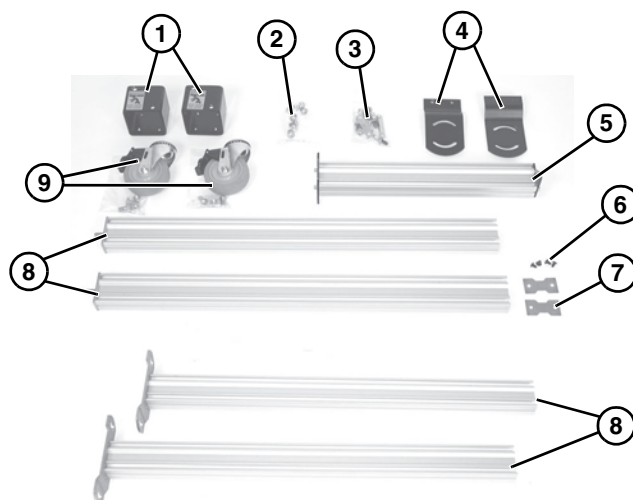
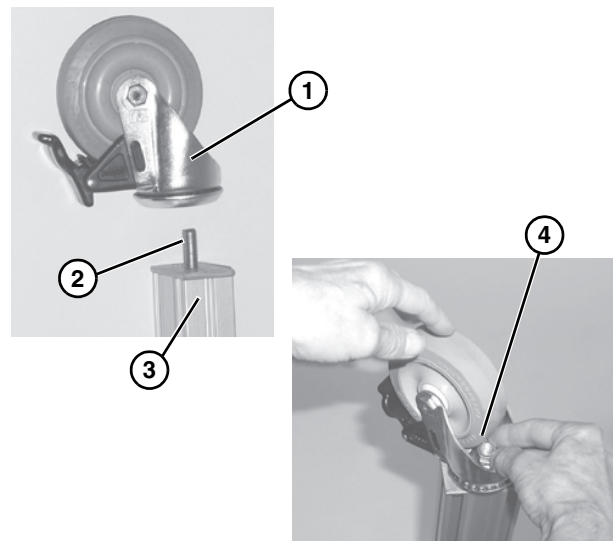
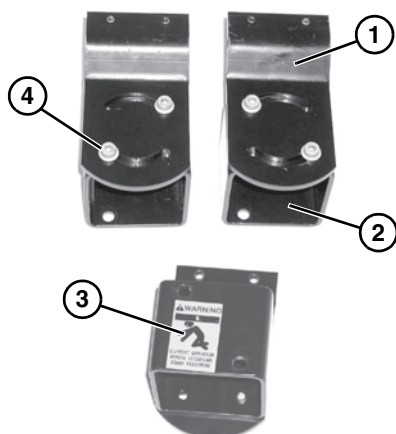

Figure 2
Figure 6
Figure 8
1. Typical components (Figure 2).
2. Open crossmember hardware pack (Figure 2, item 2).
Caster Kit (**Figure 2, item 9**) Components:
7. Open caster kit (**Figure 2, item 9**). Install caster (**Figure 6, item 1**) over bolt (**Figure 6, item 2**). Bolt is pre-assembled on stand leg (**Figure 6, item 3**). Secure caster with lock nut (**Figure 6, item 4**).
Pivot bracket (**Figure 8, item 1**) must be installed on side of leg support (**Figure 8, item 2**) opposite of warning label (**Figure 8, item 3**). When installed, round end of pivot bracket will be down and warning label will be upright, as shown.
Screws (**Figure 8, item 4**) for attaching pivot brackets (**Figure 8, item 1**) to support legs (**Figure 8, item 2**) must be installed in opposite set of holes on opposite support leg to properly attach pivot brackets to conveyor.
9. Open fully adjustable stand hardware pack (**Figure 2, item 3**). Attach pivot bracket (**Figure 8, item 1**) to leg support (**Figure 8, item 2**) with two flange socket head screws (**Figure 8, item 4**). Do not tighten screws.
19. Tighten four flange socket head screws (**Figure 8, item 4**) to 24 ft-lb (33 N-m).